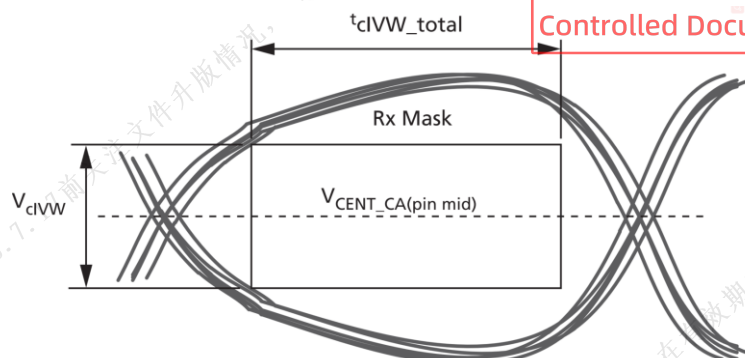

Figure 5 CA Receiver (Rx) Mask
The command and address (CA), including CS input receiver compliance mask for voltage and timing, is shown in the figure 5 below. All CA and CS signals apply the same compliance mask and operate in single data rate mode.